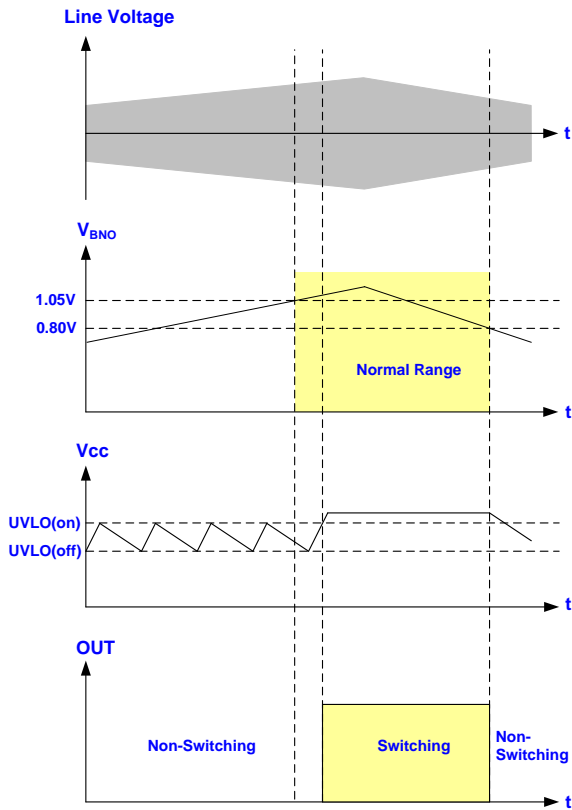

Fig. 19
The LD7932R is programmable to set the brownout protection point through BNO pin. The voltage across the BNO pin is proportional to the bulk capacitor voltage, referred as the line voltage. A brownout comparator is implemented to detect the abnormal line condition. As soon as the condition is detected, it will shut down the controller to prevent the damage. Figure 19 shows the operation. When VBNO falls below 0.80V, the gate output will be kept off even Vcc has already achieved UVLO(ON). It therefore makes Vcc hiccup between UVLO(ON) and UVLO(OFF). Unless the line voltage is large enough to pull VBNO larger than 1.05V, the gate output will not start switching even when the next UVLO(ON) is tripped. A hysteresis is implemented to prevent the false trigger during turn-on and turn-off. Figure 20 shows the circuit.